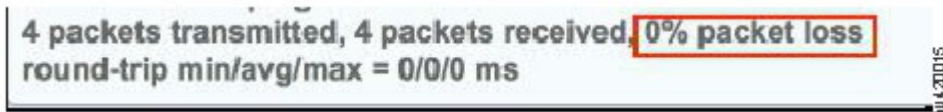

Figure 51. Ping test success
- a. If the Output displays 0% packet loss then the ping was Successful, continue to step 4. See Figure 51 as an example.